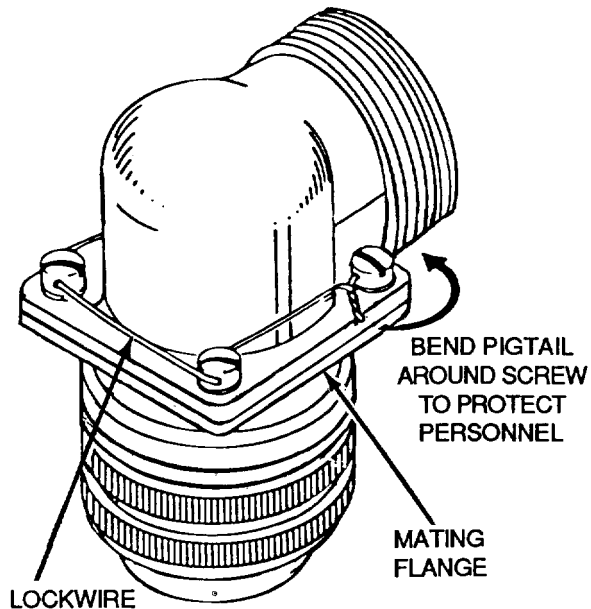

Figure 5. Single Wiring Method (Typical)
h. When twisting wire by hand, the two ends of the wire shall be held straight and taut. Use pliers for the final twist to apply tension and to secure ends of wire. Lockwire must not be nicked, kinked, or mutilated. Never twist the wire ends off with pliers. Always cut the end leaving 4 to 6 complete turns (1/4 to 1/2 inches long), which is then bent under or back to prevent injury to personnel (Figure 5).
m. Terminated lockwire shall have a 1/4 to 1/2 inch (3 to 6 twists) pigtail. The cut end shall be bent under the twisted wire (Figure 5) to prevent injury to personnel.
12. **SINGLE WIRE METHOD.** This method may be used to lockwire equipment in areas hard to reach or for small screws that are 2 inches or less between centers (Figure 5).
head screws which are lockwired using the single wire method (Figure 5).